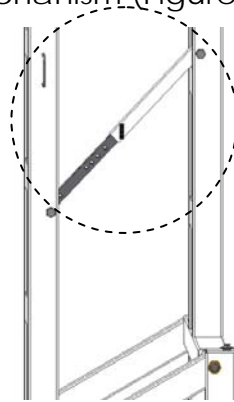

Figure 7-1: Height adjuster mechanism
1. **ONLY IF BACKBOARD HAS BEEN INSTALLED**, remove quick-release pin from height adjuster mechanism (Figure 7-1).
2. **ONLY IF BACKBOARD IS INSTALLED**, remove the quick-release pin from the height adjuster mechanism (Figure 7-1).